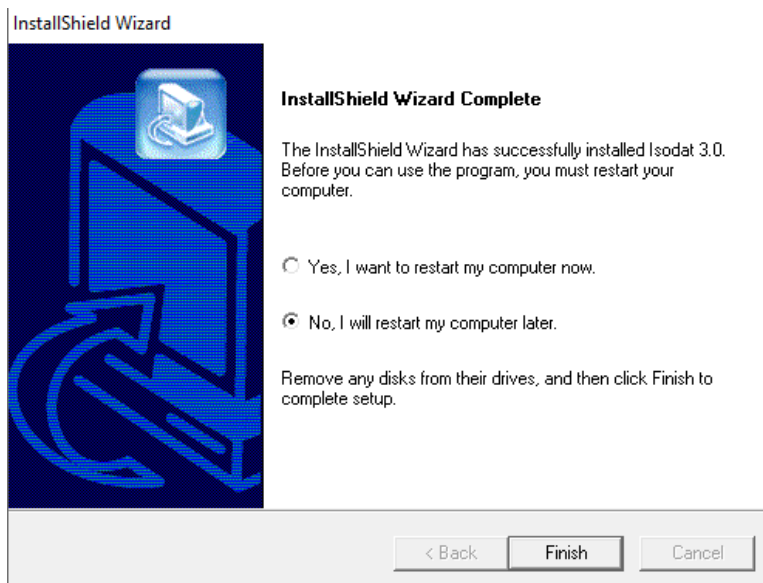

Figure 3-10. Isodat installation - Postpone restart
13. In the Install Shield Wizard Complete dialog, see Figure 3-10, select **No, I will restart my computer later**.
16. Return to the InstallShield Wizard Complete dialog (see Figure 3-10). Click **Finish**.